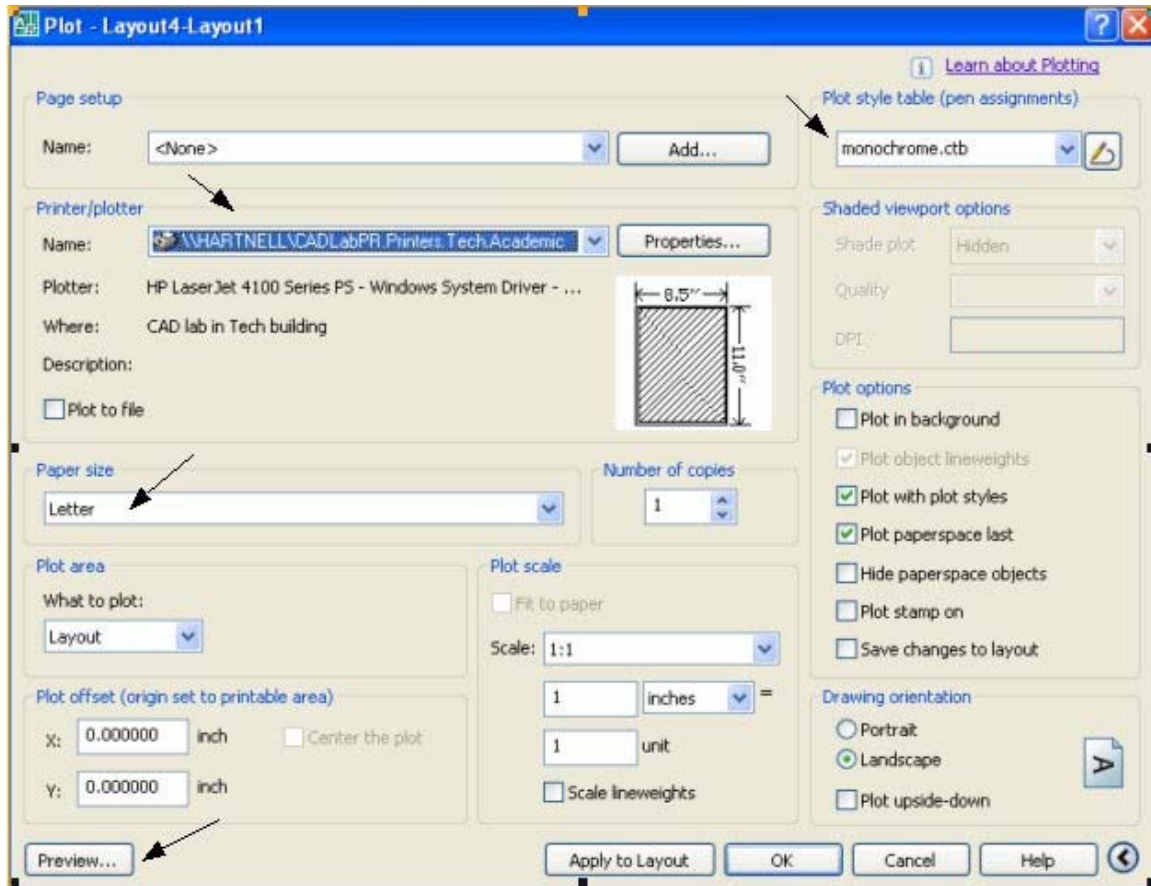

Figure 9
- c. **Full preview** (Figure 9)